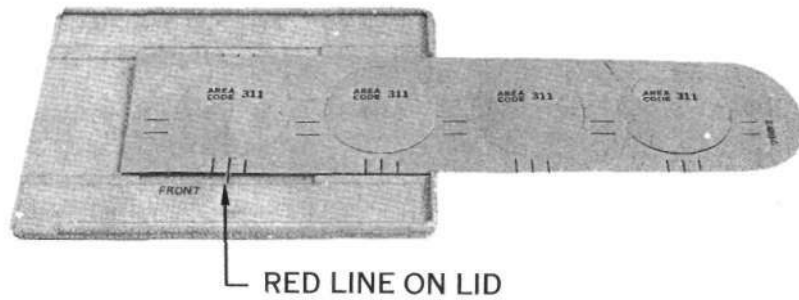

Fig. 4 - Aligning Guide Lines
- (1) Set number to be printed on numbering machine as outlined in 3.01.
- (2) Place lid so that the word FRONT faces you.
- (3) Place number card form in slot so that the middle guide line is aligned with the red line on the lid (Fig. 4).